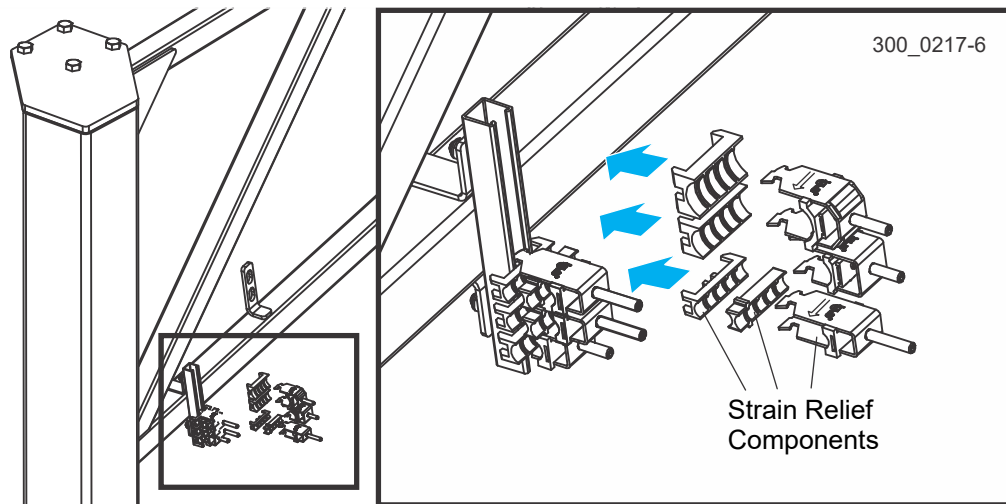

FIG. 3-16
11. Assemble the strain relief components to the strain relief brackets. (See Figure 3-16.)
See Figure 3-16.